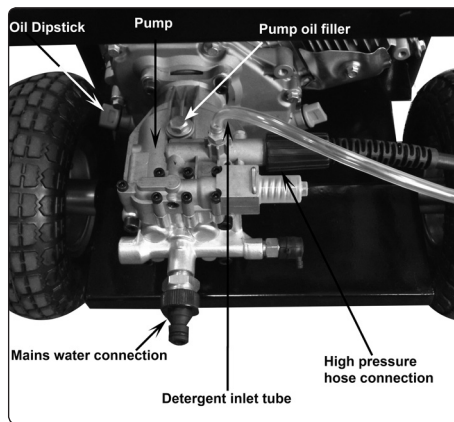

fig.5
- 4.1.5. Attach the other end of the high pressure hose to the pump outlet as shown in fig.5.
- 4.1.6. Connect the mains water supply hose to the pump inlet as shown in fig.5. **USE COLD WATER ONLY.**
- 4.2.2. On the top of the pump outlet is a brass siphon injection fitting. Push the detergent input pipe onto the fitting (fig.5) and place the filter on the other end into the container of detergent. When the nozzle on the lance is set to low pressure, detergent will be drawn from the container and will mix automatically with the water from the pump. Use Sealey General Purpose Detergent, AK130 (25ltr) or AK131 (5ltr). Traffic Film Remover is also available, AK132 (25ltr) or AK133 (5ltr).
- 7.4. Check the pump oil level by removing the pump filler cap (fig.5). The pump should be topped up with 15w-40oil (the oil capacity of the pump is 0.4ltr).